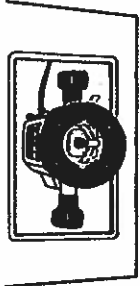

Fig. 3
1. Decide how you want the router positioned under the table. Things to consider are switch location, depth adjustment knobs, and the depth lock lever or knob. Large routers may need to be rotated so the handles fit through the opening at all depth settings (Fig. 3).